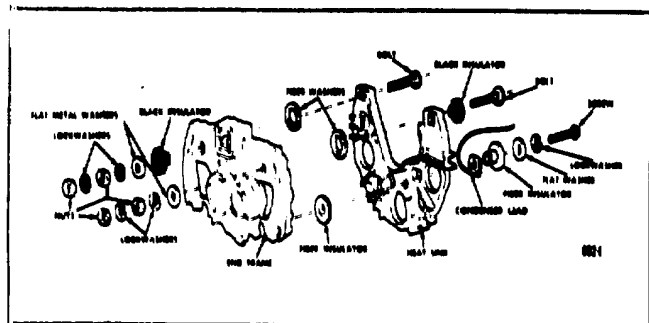

Figure 15.
9. Assemble the heat sink onto the slip ring end frame. (Fig. 15)